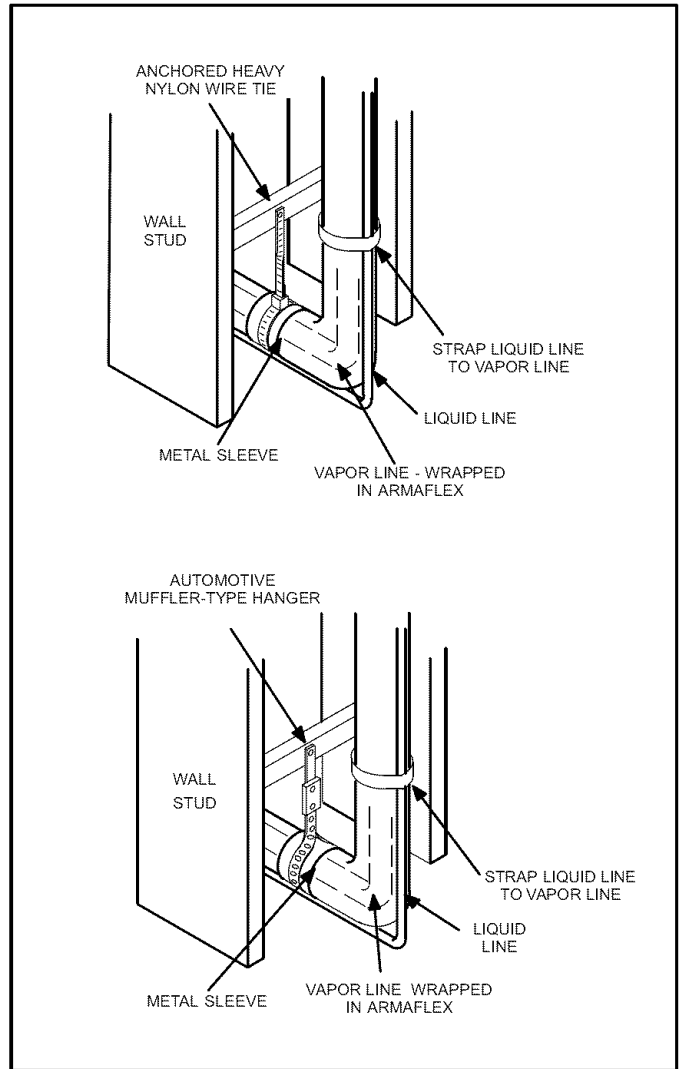

Figure 18. Refrigerant Line Sets: Transition from Vertical to Horizontal
- Installation of a transition from horizontal to vertical is illustrated in figure 18 on page 10.